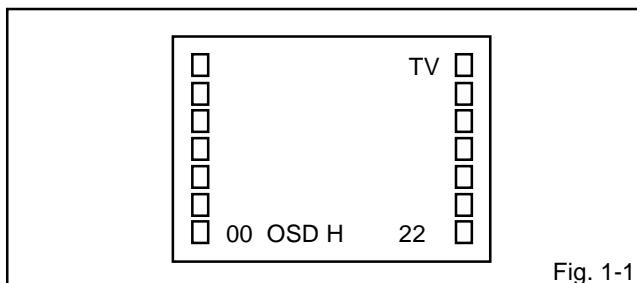

Fig. 1-1
2. Press the VOL. DOWN button on the set and the Channel button (9) on the remote control simultaneously to appear the adjustment mode on the screen as shown in Fig. 1-1.
4. Activate the adjustment mode display of Fig. 1-1 and press the channel button (03) on the remote control to select "V.VCO".
3. Activate the adjustment mode display of **Fig. 1-1** and press the channel button **(02)** on the remote control to select "RF AGC".
5. Activate the adjustment mode display of **Fig. 1-1** and press the channel button **(01)** on the remote control to select "CUT OFF".
4. Activate the adjustment mode display of **Fig. 1-1** and press the channel button **(10)** on the remote control to select "R CUT OFF".
3. Activate the adjustment mode display of **Fig. 1-1** and press the channel button **(05)** on the remote control to select "H PHAS".
3. Activate the adjustment mode display of **Fig. 1-1** and press the channel button **(07)** on the remote control to select "V SFT".
3. Activate the adjustment mode display of **Fig. 1-1** and press the channel button **(06)** on the remote control to select "V SIZE".
3. Activate the adjustment mode display of **Fig. 1-1** and press the channel button **(13)** on the remote control to select "BRI.CENT".